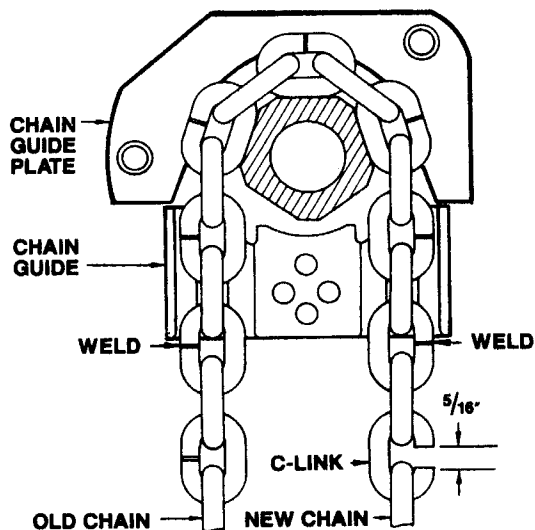

FIGURE 5-3. CHAINING HOIST
- e. Make a "C"-shaped chain link by grinding through one side of the end link of either the old or new chain. See Figure 5-3.
<ol style="list-style-type: none"> <li>1. Hoist overloaded.</li> <li>2. Motor brake requires adjustment.</li> <li>3. Worn overload limiting clutch.</li> <li>4. Low voltage.</li> <li>5. Faulty SINPAC starting switch or start capacitor (single phase hoists only).</li> </ol>	<ol style="list-style-type: none"> <li>1. Reduce load within rated capacity of hoist.</li> <li>2. Check motor brake adjustment. See Figure 5-3.</li> <li>3. Replace clutch.</li> <li>4. Check voltage at hoist power cord with hoist starting. Voltage should be no less than 90% of voltage specified on hoist.</li> <li>5. Replace faulty component.</li> </ol>